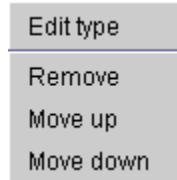

Figure 103 : Contextual menu
- ◆ Right click on a port to display the contextual menu (Figure 103) and select **Edit Type**.
- ◆ Or right click on a port to display the contextual menu (Figure 103) and select **Remove**.